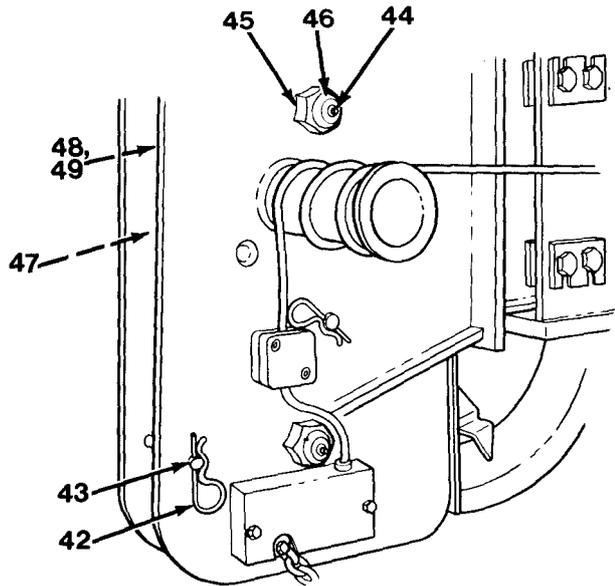
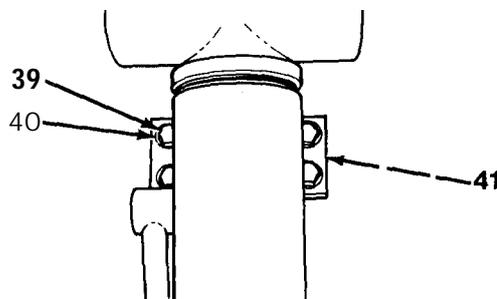

Figure 15-15
Figure 15-14
2. Install tube (49), two spacer washers (48), three sheaves (47), two boom pins (46), lock nuts (45) and four grease zerks (44, Figure 15-15) on boom tip.
3. Install three cable retaining pins (43) and six hair pin totters (42) in boom tip.
4. Install two small pads (41), four washers (40) and capscrews (39, Figure 15-14) to boom extend cylinder.